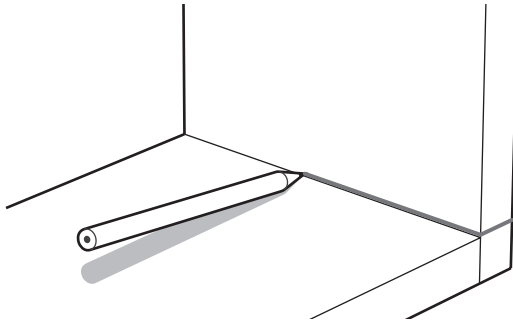

Figure 7: Marking the depth of the fingers.
5. Mark the depth of the fingers around all the faces of each board, as shown in **Figure 7**. Note that it is desirable to angle your pencil so the line is slightly higher than the horizontal board (about $1/64''$ to $1/32''$). This offset will ensure the fingers are a little long, leaving a trimming allowance. This extra depth adds a built-in clearance for the glue.